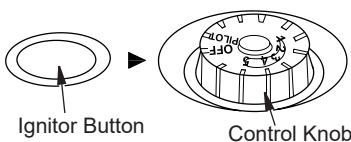

Figure 18 - Control Knob in the OFF Position
4. Wait five (5) minutes to clear out any air. Then smell for gas, including near the floor. If you smell gas, STOP! Follow "B" in the safety information, page 16. If you do not smell gas, go to the next step.
5. Turn control knob counterclockwise  to the PILOT position. Press in control knob for five (5) seconds (see Figure 18).